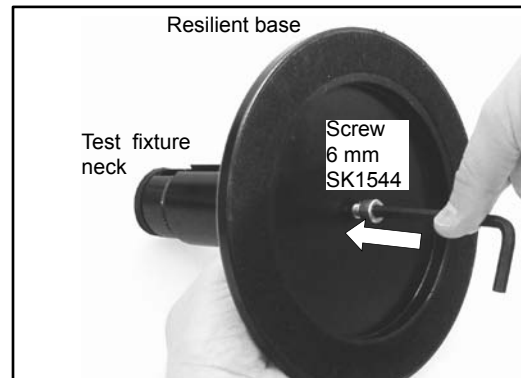

Fig. 3.2
2. Place the screw into the bottom of the resilient base, and screw the base onto the neck with the Allen key (Fig. 3.2).